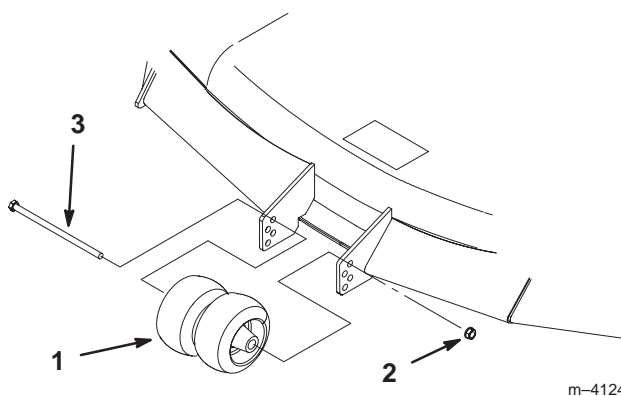

Figure 18
3. After adjusting the height-of-cut, remove the bolt and nut (Fig. 18).
4. Select a hole so that the gage wheel is positioned to the nearest corresponding height-of-cut desired (Fig. 18).
5. Reinstall the bolt, center rollers, and nut (Fig. 18).